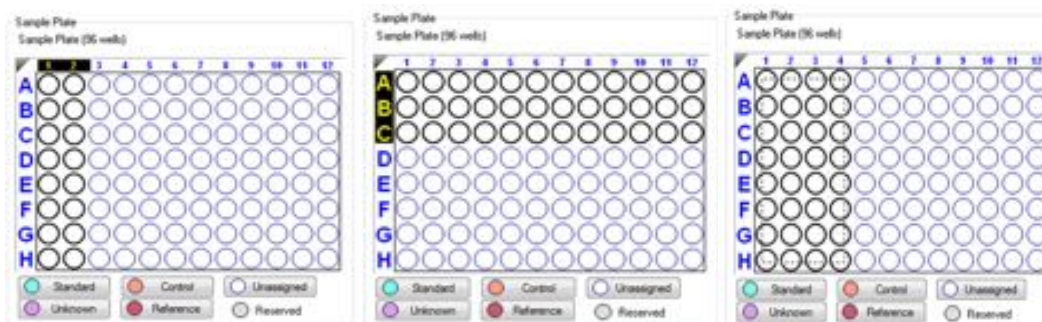

Figure 5-3: Selecting Wells in the Sample Plate Map
- Click a column header or select adjacent column headers by click-hold-drag (Figure 5-3 left). To select non-adjacent columns, hold the **Ctrl** key and click the column header.
- Click a row header or select adjacent row headers by click-hold-drag (Figure 5-3, center).
- Click a well or draw a box around a group of wells (Figure 5-3, right).
2. Click the **Standard** button below the **Sample Plate Map** (see Figure 5-3), or right-click and select **Standard**.